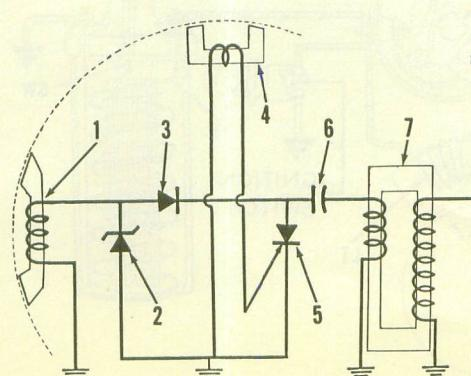

Fig. 2-16A-Schematic diagram of a typical Capacitor Discharge "Solid State" ignition system.
Fig. 2-16A shows a circuit diagram of a typical single cylinder, capacitor discharge, breakerless ignition system using permanent flywheel magnets as the energy source. The magnets pass by the input generating coil (1) to charge the capacitor (6), then by the trigger coil (4) to open the gate and permit the discharge pulse to enter the pulse transformer (7) and generate the spark which fires the plug (8). Only half of the generated current passes through diode (3) to charge the capac-